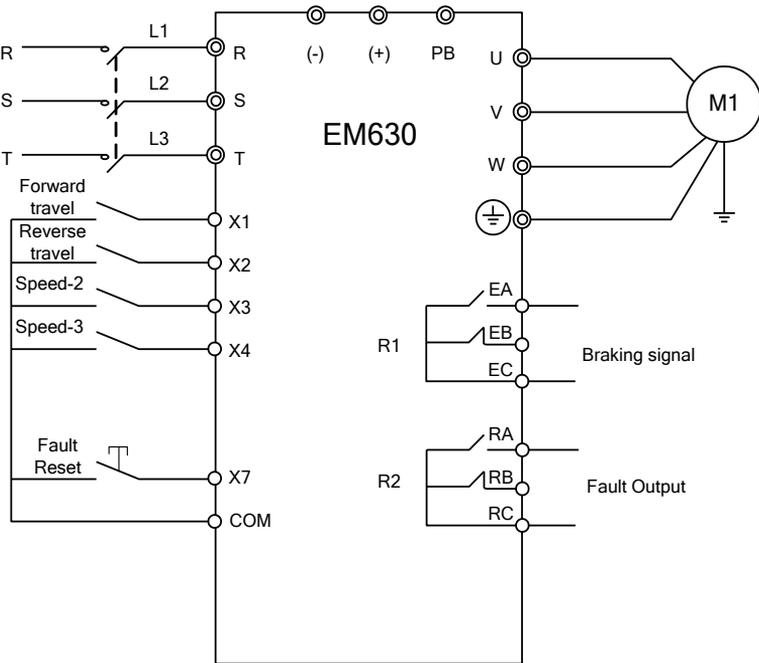

Figure 13-4 Wiring Diagram of EM630 Inverter for Travel Application of Tower Crane
- 2. If F20.00=4 or 5 is selected for EM630 inverter for tower crane travel macro, then functions of Xi, R1 and R2 shall be configured as per Figure 13-4.